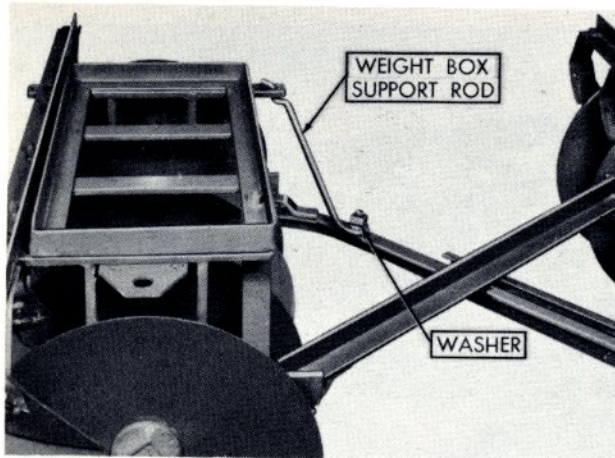

Figure 6
Step 4: Fasten the weight box support rods to the lower cross drawbars and rear gang frames by putting curved end of rod through hole in the outer gang scraper support and bolting the loop end of the rod to the lower cross drawbars. Use a washer between the rod loop and the nut. See Figure 6.